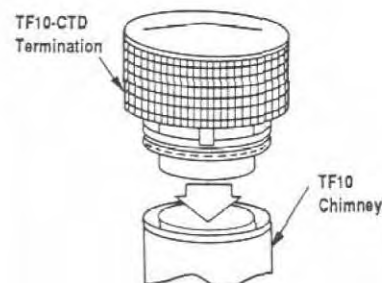

Figure 35
- 1) Hold CTD over top of last chimney section (Figure 35).